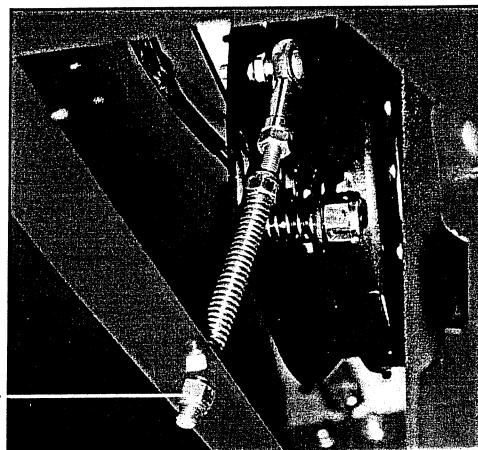

Figure 52
2. Remove nut from bottom flange on front grille (torque rod). (Figure 52)
7. Reinstall spring and nut on the torque rod to prevent clutch/brake assembly from rotating. (Figure 52) This rod must be well secured. Extensive damage will occur to the clutch if not secured.